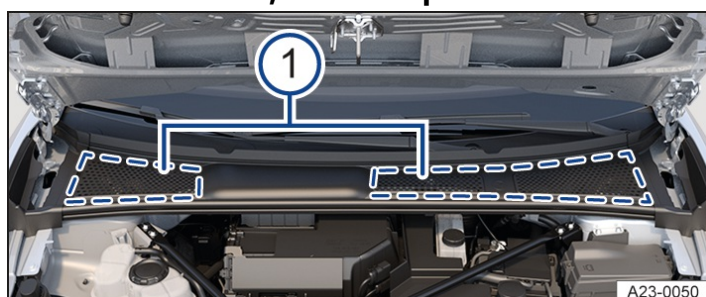

Fig. 1 Between the bonnet space and the windscreen: plenum chamber (illustration).
- Have the area under the perforated cover cleaned regularly by a suitably qualified workshop → Fig. 1 ①. Volkswagen recommends using a Volkswagen dealership.
- Remove leaves and other loose objects with a vacuum cleaner or by hand → *Fig. 1*.